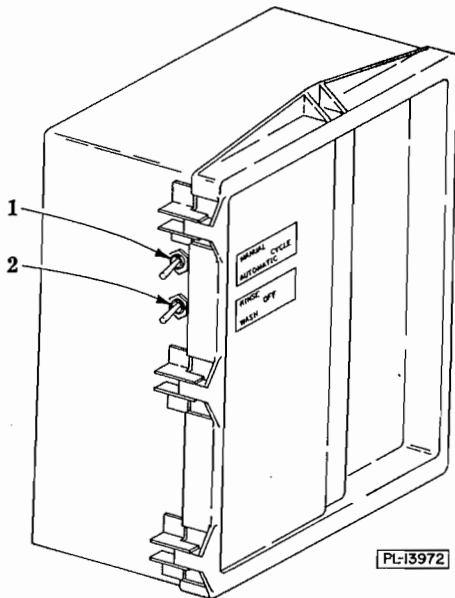

Fig. 7
C.3.1 The dishwasher can be operated in automatic or manual by positioning the cycle switch (1, Fig. 7) in desired position. When cycle switch is set for manual, wash operation is accomplished when wash/rinse switch (2, Fig. 7) is in wash position. To rinse in manual operation, hold lower wash/rinse (2, Fig. 7) in rinse position for rinse time desired. The center position is in the "OFF" position. When the cycle switch (1, Fig. 7) is set on automatic, the dishwasher operates on the normal cycles.